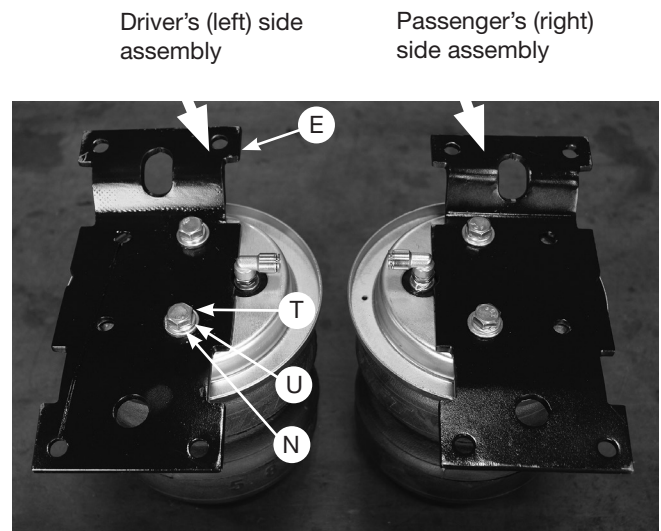

Fig. 9
2. Set the upper air spring bracket (E) onto the top of the air spring using one set of holes with the 3/8"-24 x 7/8" hex-cap screw (T), 3/8" lock washer (U) and 3/8" flat washer (N) (Fig. 9). Install the remaining air spring bracket onto the remaining air spring, using the opposite holes from those that were previously used. This makes the air spring assemblies into left- and right-hand units. Torque the hardware to no more than 20 lb.-ft. (27Nm).